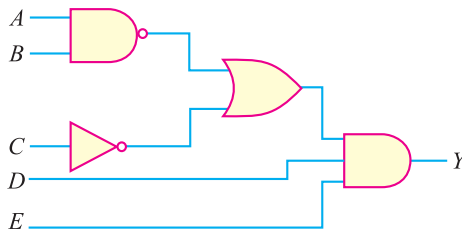

Fig. 26.62
14. Write the Boolean expression for the logic circuit shown in Fig. 26.62.